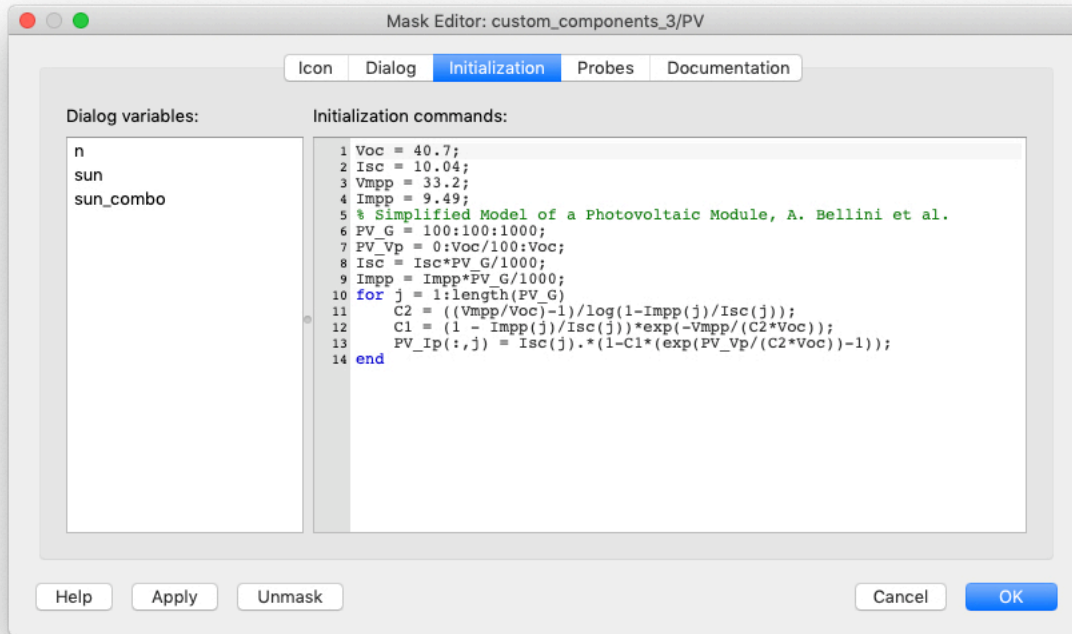

Figure 10: Initialization commands of the masked subsystem
- 8 The calculation of the current characteristic needs to be done within the subsystem mask since the subsystem only has visibility of mask variables. Move the code from the **Model initialization commands** window to the subsystem **Initialization commands** window. Your subsystem **Initialization Commands** window should now look like what is shown in Fig. 10.